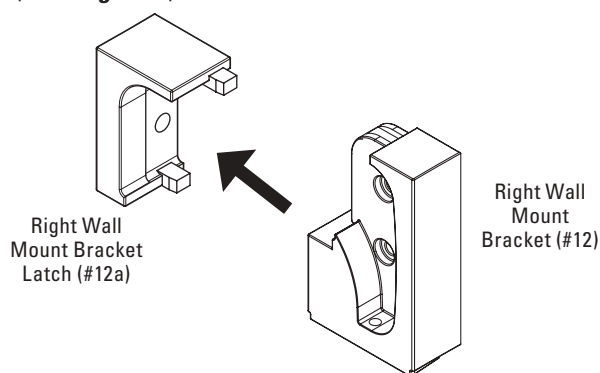

Figure 5
A. Remove the Latch from Wall Mount Bracket (See **Figure 5**).